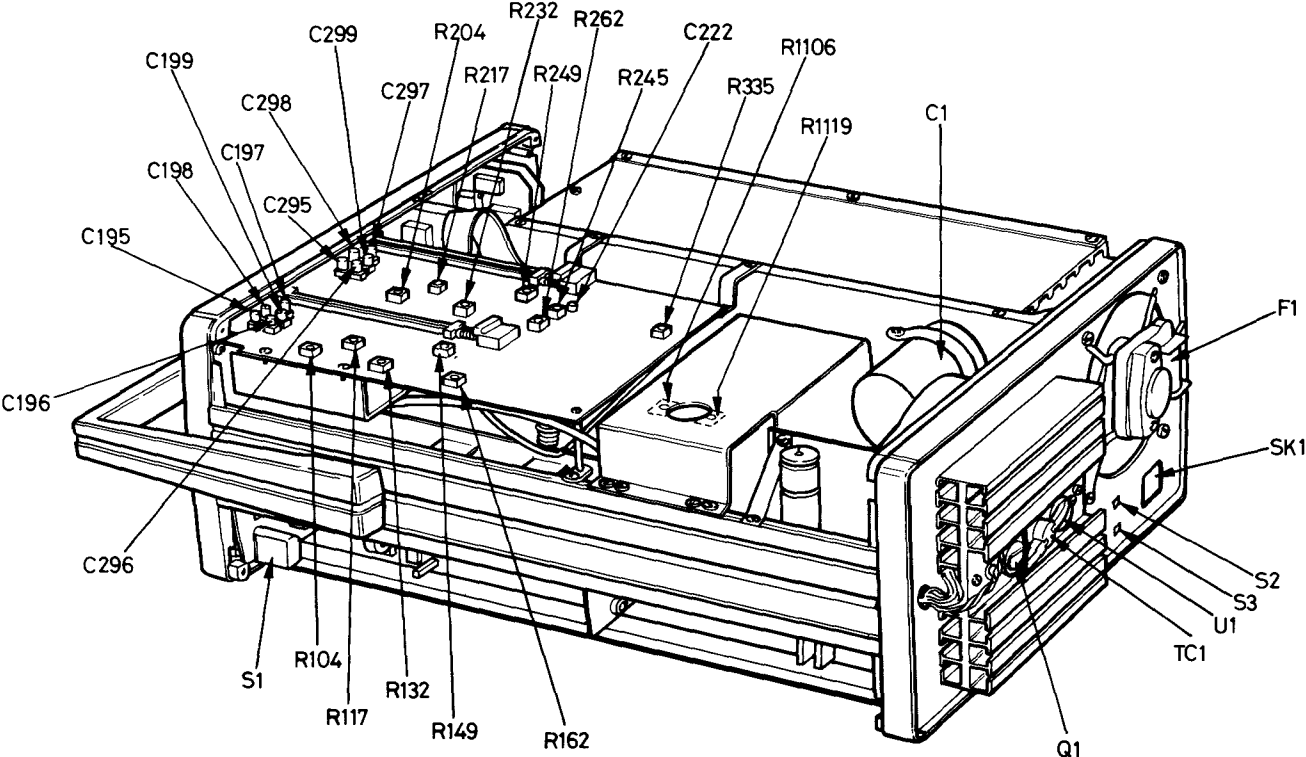

Fig. 5.2 Bottom View
3. The +5V supply and -5V supply fuses are mounted side by side on the centre chassis plate near the EHT generator section see Fig. 5.2. Access to these fuses is gained by removing the bottom cover (see section 5.2). The +5V supply fuse is 10A FAST BLOW (Part No. 12991) and is situated nearer the rear of the instrument. The -5V supply fuse is 5A FAST BLOW (Part No 12807) and is situated nearer the front of the instrument.